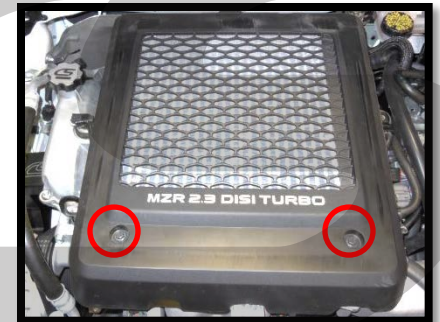

Figure 1b
- b) Remove the two 10mm bolts fastening the intercooler shroud to the intercooler. Push the shroud towards the firewall to unhook it and remove it from the vehicle (red circles in Figure 1b).